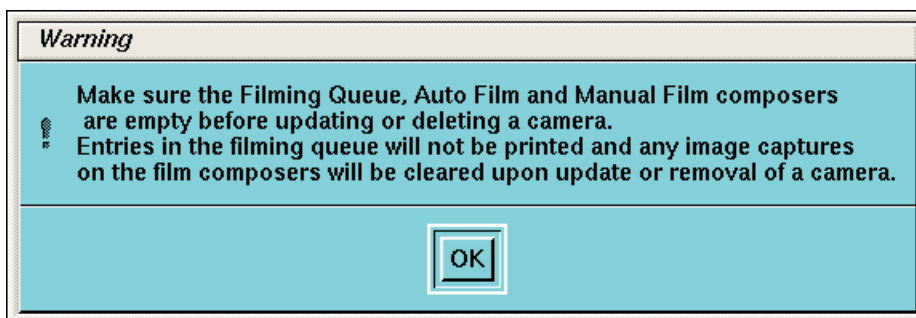
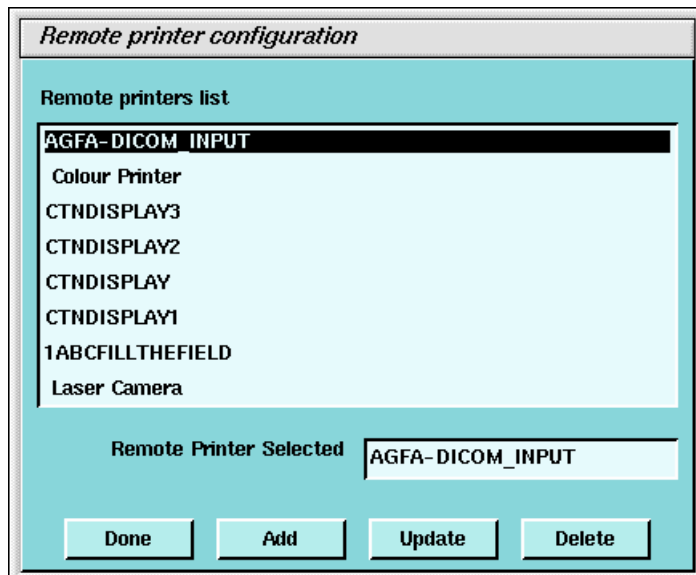

Figure 4-8 Warning Screen
Figure 4-9 Printer Configuration GUI
- 3.) The Graphical User Interface displayed shows a list of cameras installed (See Figure 4-9). First, you must click OK in the warning message box. See Figure 4-8.
- a.) To add a new camera, click the ADD button (See Figure 4-9).